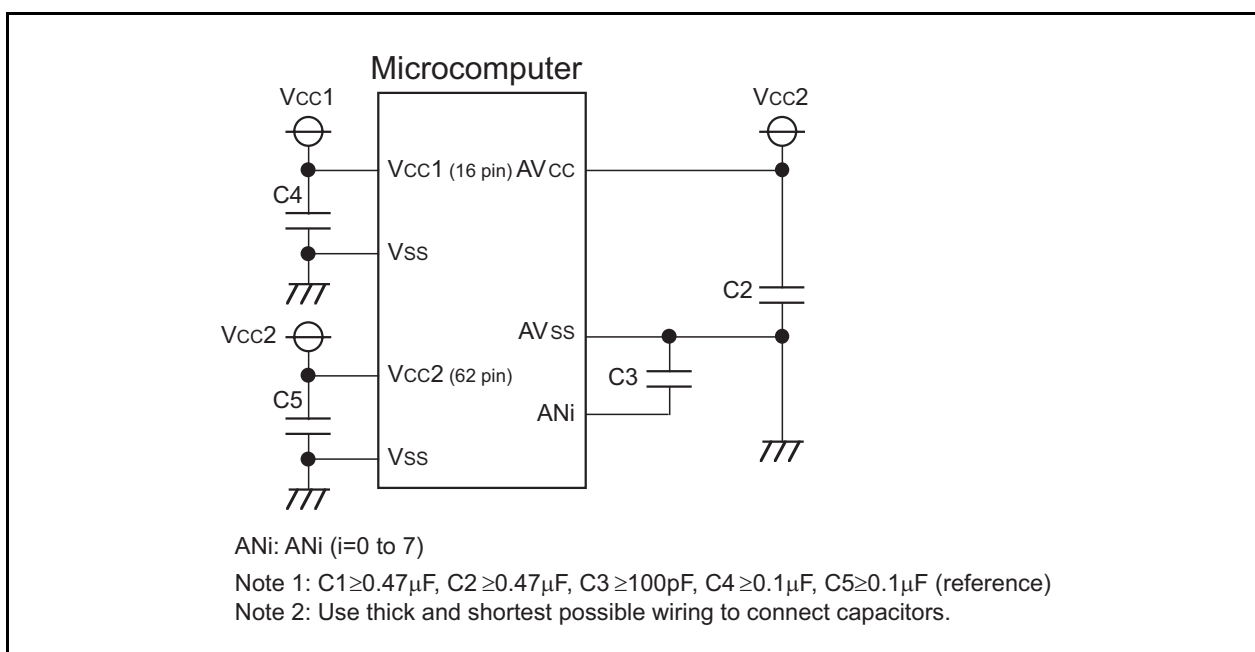

Figure 12.11 VCC, VSS, AVCC, AVSS, VREF and ANi Connection
- (1) Make sure the port direction bits for those pins that are used as analog inputs are set to “0” (input mode). Also, if the ADCON0 register’s TGR bit = 1 (external trigger), make sure the port direction bit for the ADTRG pin is set to “0” (input mode).
- (2) To prevent noise-induced device malfunction or latchup, as well as to reduce conversion errors, insert capacitors between the AVCC, VREF, and analog input pins (ANi (i=0 to 7)) each and the AVSS pin. Similarly, insert a capacitor between the VCC pin and the VSS pin. Figure 12.11 is an example connection of each pin.
- (3) If the CPU reads the ADi register (i = 0 to 7) at the same time the conversion result is stored in the ADi register after completion of A/D conversion, an incorrect value may be stored in the ADi register. This problem occurs when a divide-by-n clock derived from the main clock or a subclock is selected for CPU clock.